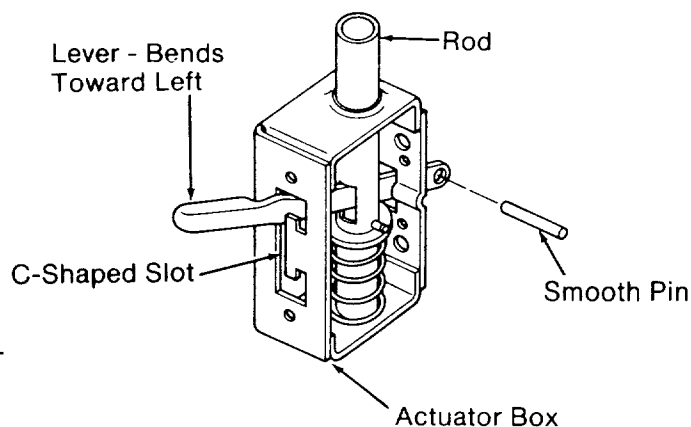

Fig. 25 - Building Left Foot Assembly
8. Slide a *lever* through the C-shaped slot in the *actuator box*, through the square hole in the *rod*, and through the square opening in the back of the *actuator box*. Make sure that the *lever* bends toward the left. (Figure 25)
10. Put a *smooth pin* through the hole in back of the *lever*. (Figure 25)